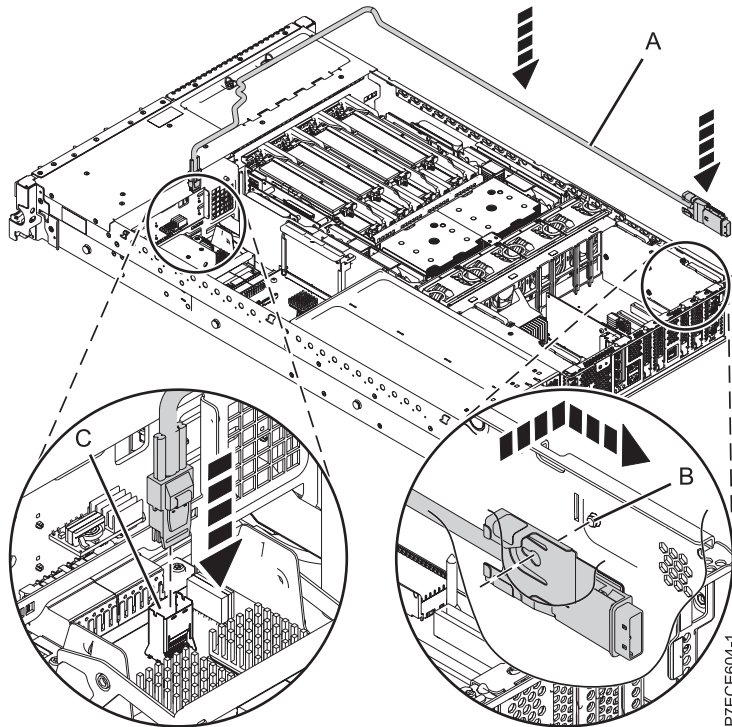

Figure 57. Installing the SAS cable
10. Connect the mini-SAS connector of the SAS cable to the internal SAS connection port (C) on the storage interposer until it snaps in place. See Figure 57 on page 87.
11. Route the cable (A) in front of the memory riser cage and along the channel in the side wall until the SAS port connector is near the opening on the rear of the chassis.
12. Align and guide the slot in the bracket of the SAS port connector (B) over the guide pin in the chassis. Then slide the SAS port connector into the opening on the rear of the chassis until the tab on the bracket snaps in place.